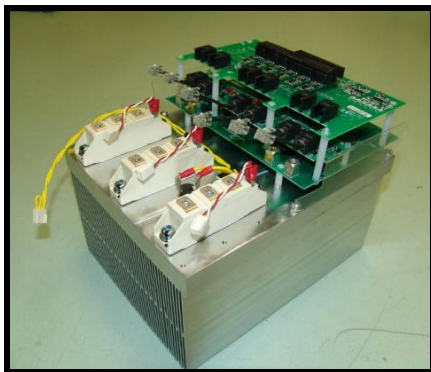

Figure 7.3.13. Disassembly of the upper Gate Drive board
- 2) Remove the 6 plastic screws **M3x8** DIN-933. (See figure 7.3.13).
- 1) Put the board in the correct position (see figure 7.3.13).
See figure 7.3.13 while following the next instructions: